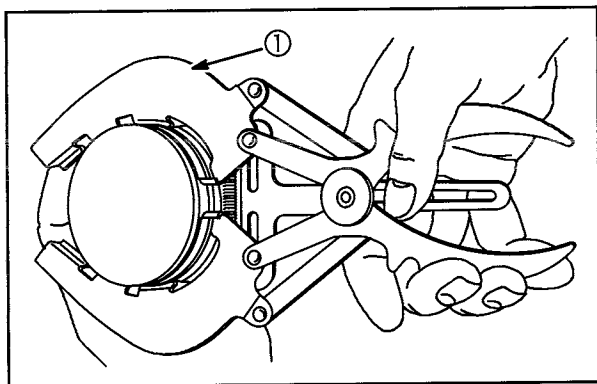

Fig. 1
1. Remove piston rings using Ring Expander #19340 (1), Fig. 1.